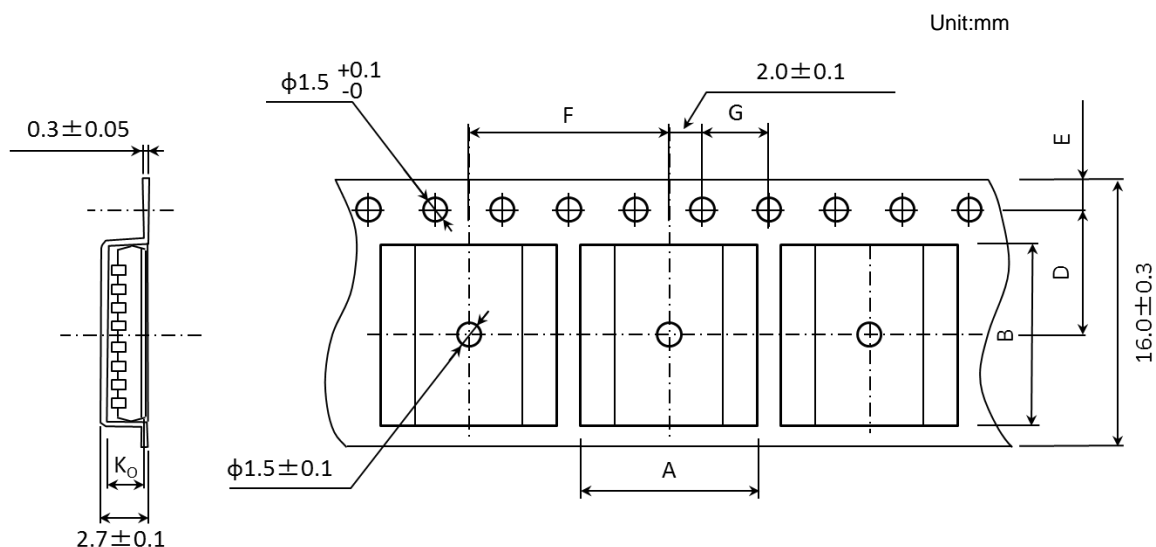

Figure 2 Tape Forms
- (1) Material: Plastic (for protection against static electricity)
- (2) Dimensions: The tape dimensions are shown in Figure 2 and Table 2.